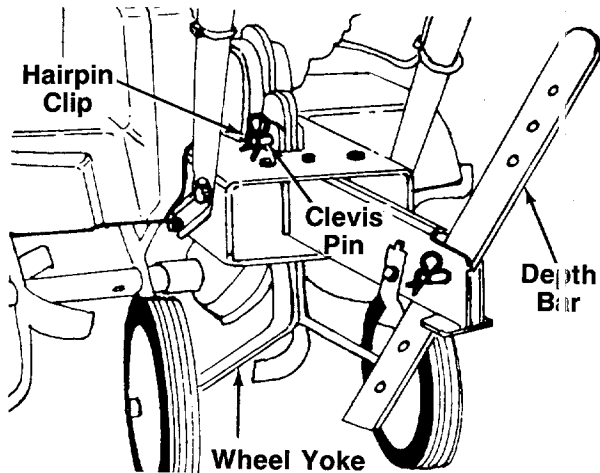

FIGURE 18.
The tiller is shipped with the wheels adjusted such that the unit sits level. During digging as the tines enter the ground and the front of the tiller lowers, the wheels must be raised to level the unit, which is essential for proper engine operation. This adjustment is made by removing the clevis pin and hairpin clip from wheel yoke, raising the wheels to the desired height, and replacing the clevis pin and hairpin clip. See figure 18.
2. **Depth Stake Adjustment:** The depth stake acts as a brake for the tiller and controls the depth and speed at which the machine will operate. Remove the clevis pin and hairpin clip to raise or lower depth stake. See figure 18.